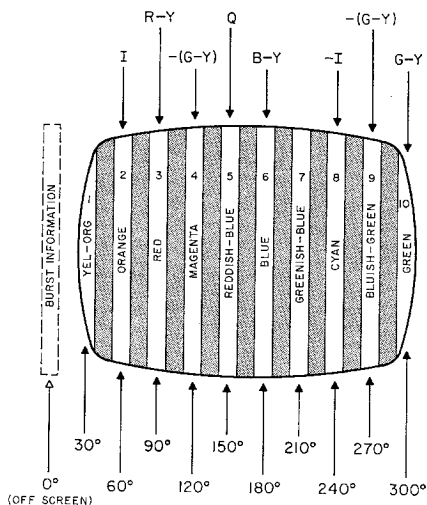

Figure 3. Gated Rainbow
Step 2. Adjust the receiver’s saturation, brightness and contrast controls to produce a pleasing color pattern. Ten individual color bars should be visible on the face of the screen (See Fig. 3).